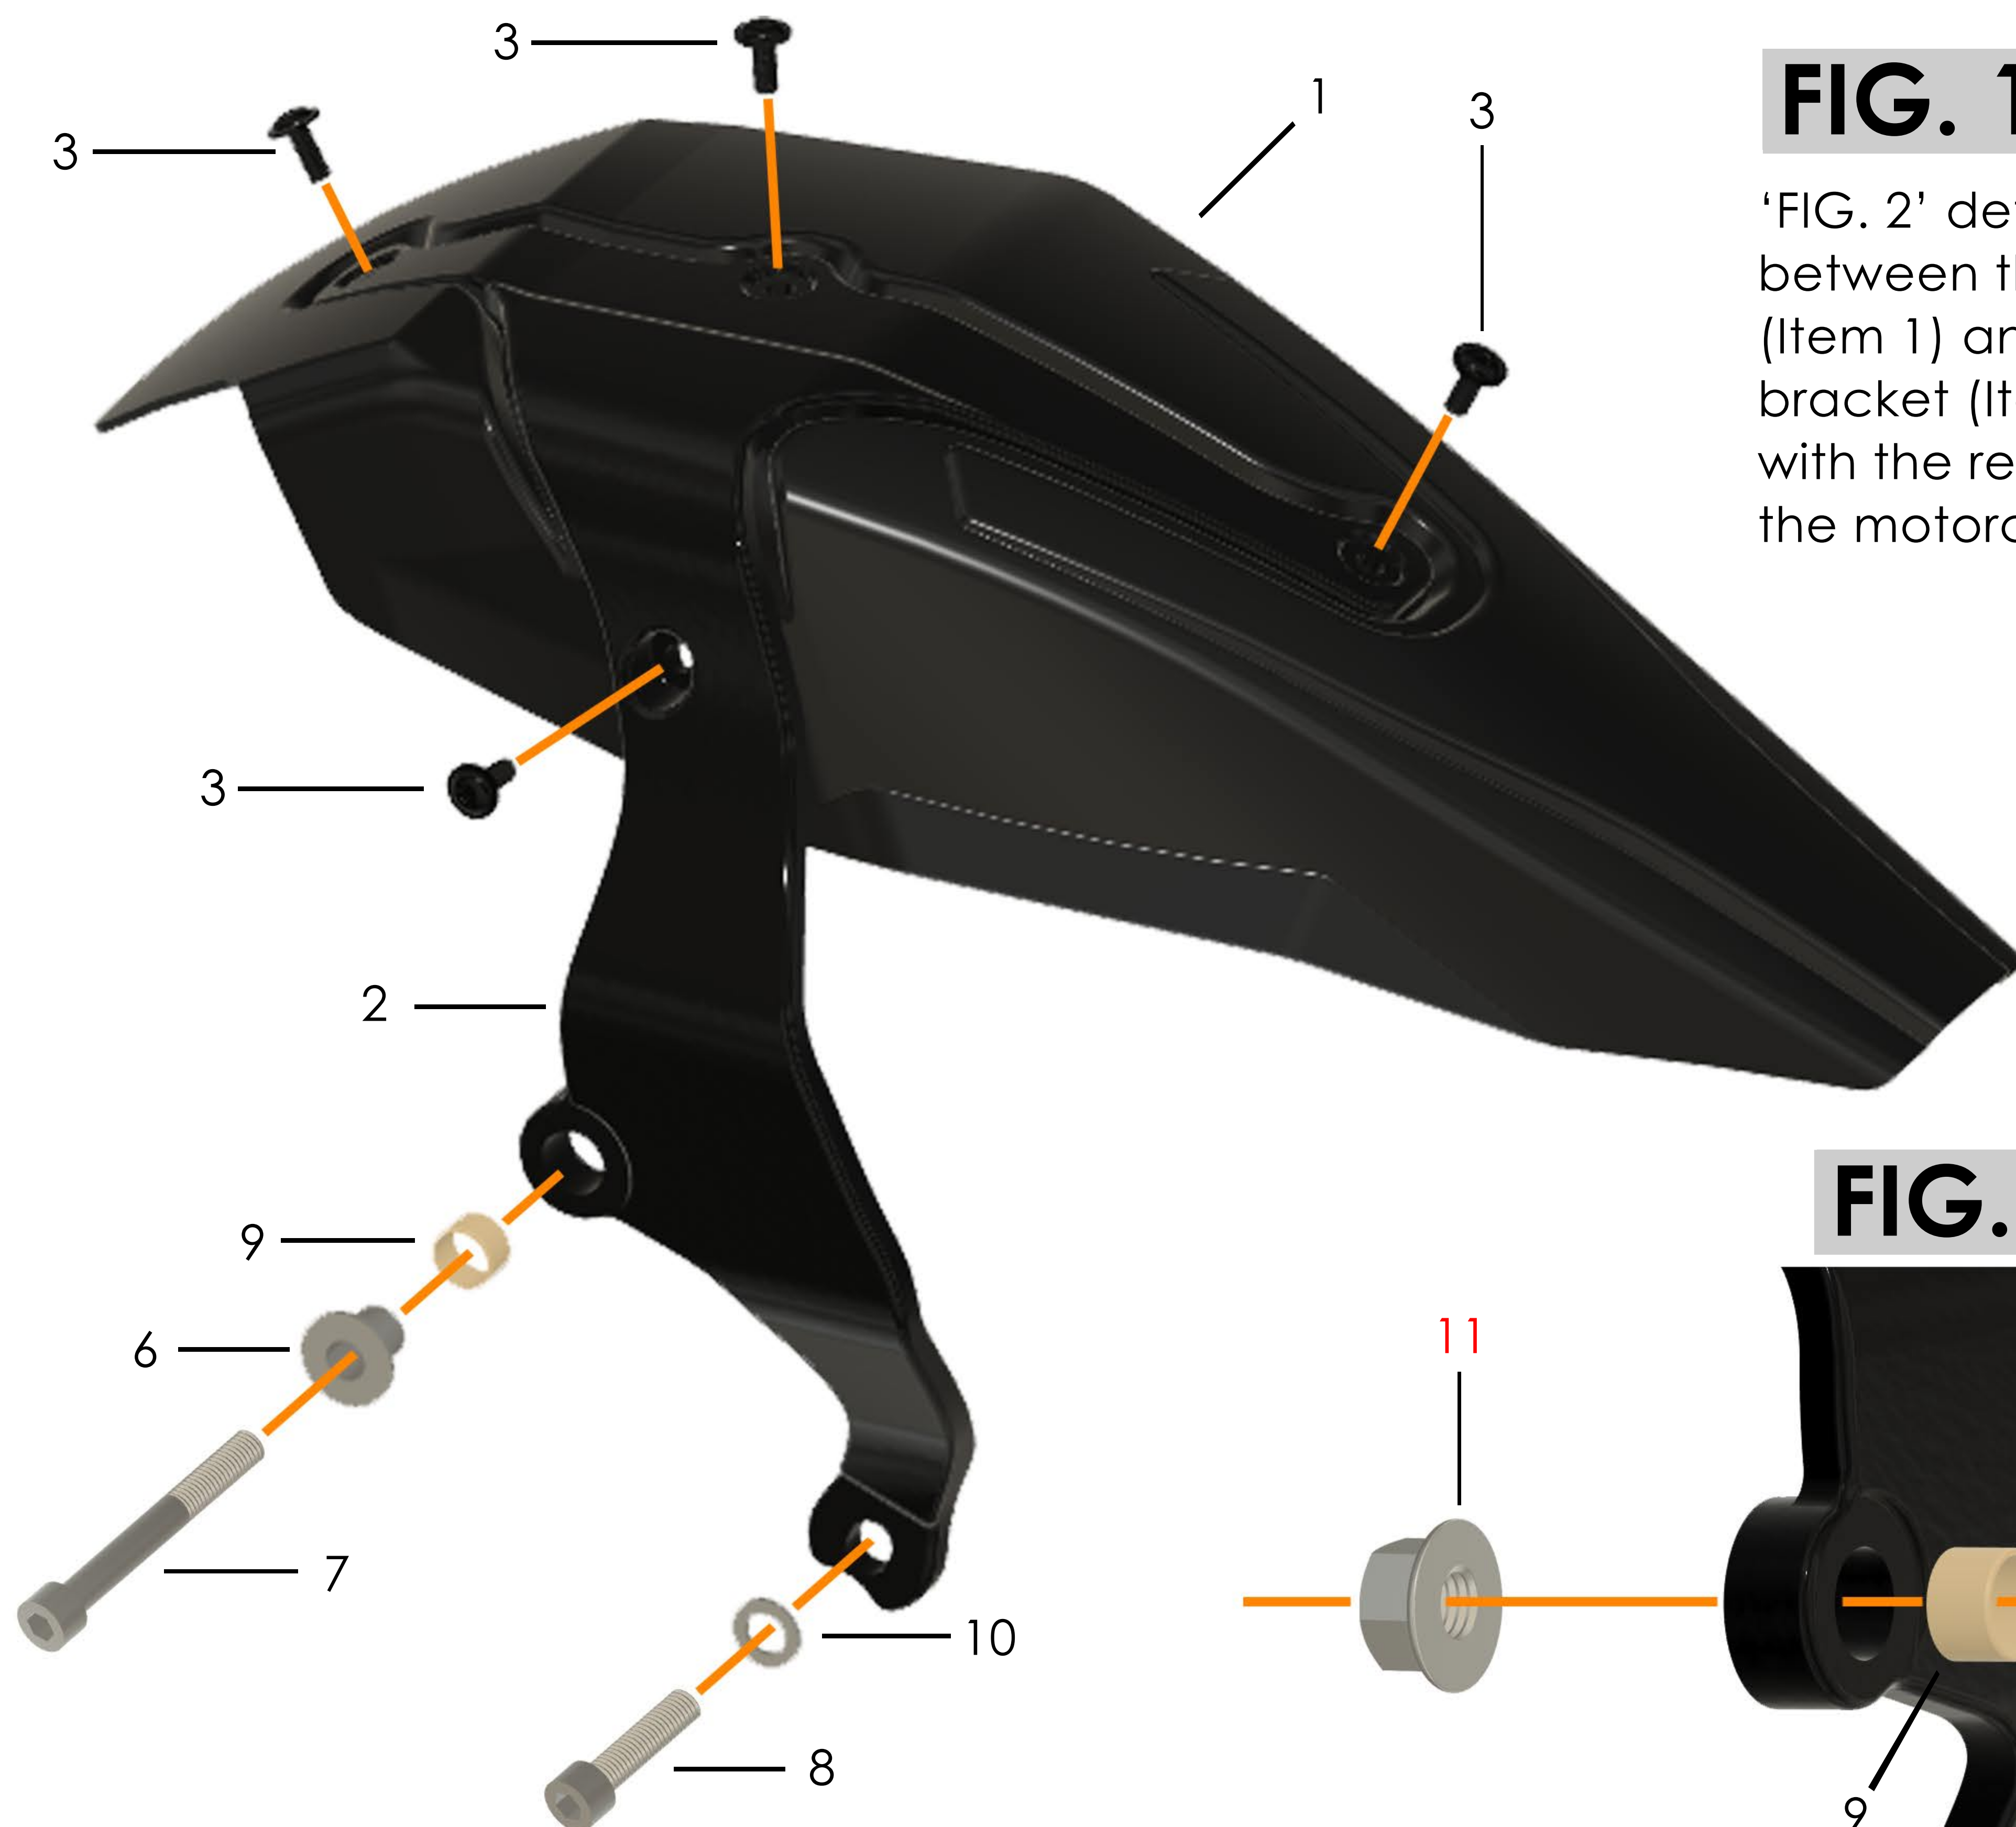

FIG. 1
- Begin by assembling the Hugger blade (**Item 1**) to the Hugger mounting bracket (**Item 2**). You will need 4 x M6 bolts (**Item 3**), 4 x M6 washers (**Item 4**) and 4 x M6 Nyloc nuts (**Item 5**). Please ensure the bracket is firmly seated in the allocated recess in the bracket. **Do not fully tighten** until 4 x fixings have been located. Please refer to '**FIG. 1**' & '**FIG. 2**' for guidance.